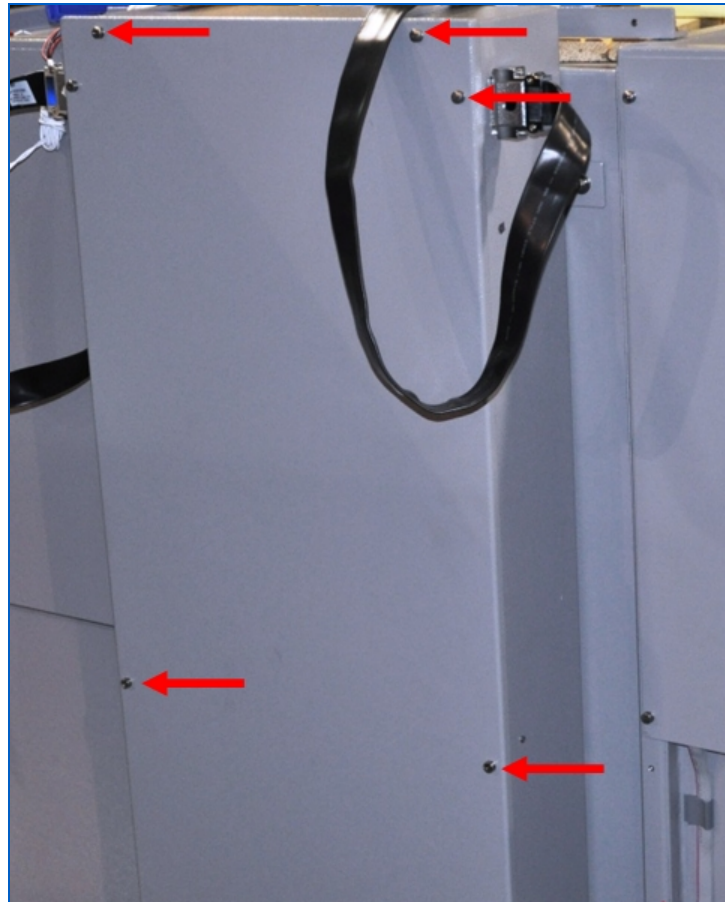

Figure 298: Side Diode Array Box Lid and Mounting Screws
2. Remove the screws holding the lid of the box, and remove the lid (Figure 298).